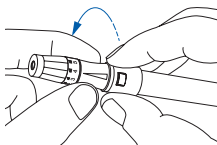

Figure 22
**STEP 5:** Set the Lancing Level. The adjustable tip offers five (5) levels of skin penetration. To select the desired depth, twist the adjustable tip in either direction until the number lines up with the arrow. To select the best depth: 1–2 for soft or thin skin, 3 for average skin, 4–5 for thick or callused skin. *See Figure 22.*